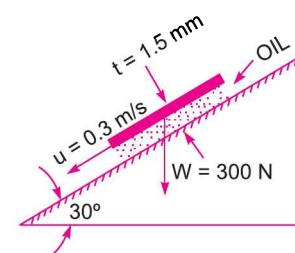

Fig. 1.4
**Problem 1.7** Calculate the dynamic viscosity of an oil, which is used for lubrication between a square plate of size  $0.8 \text{ m} \times 0.8 \text{ m}$  and an inclined plane with angle of inclination  $30^\circ$  as shown in Fig. 1.4. The weight of the square plate is 300 N and it slides down the inclined plane with a uniform velocity of  $0.3 \text{ m/s}$ . The thickness of oil film is 1.5 mm.